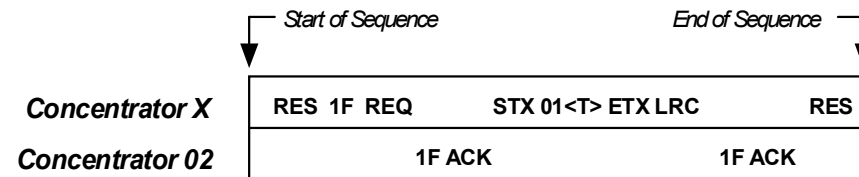

Figure 2-8 Concentrator to Concentrator Select Sequence
**First Select Sequence.** When concentrator X receives the command, it strips away the 02, substitutes 1F hex as the select address, and forwards the remaining command, 01<T>, to Concentrator 02, shown in figure 2-8.